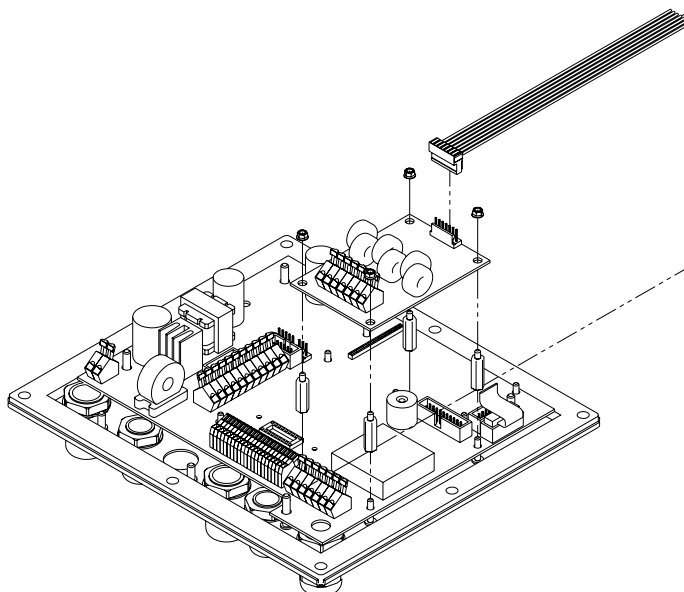

Figure 10-18: 560 and 660 Series STVS Installation
5. Mount the option board on the threaded standoffs with the load cell connector of the STVS board toward the load cell connector of the 560 or 660 Series main board (as shown in Figure 10-18).